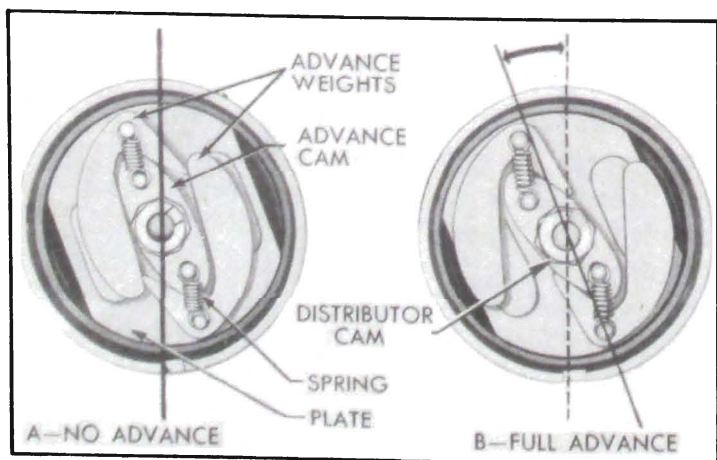

Figure 10-66—Centrifugal Advance Mechanism
2. *Centrifugal advance* which is governed by speed of engine. The centrifugal advance mechanism built into the distributor consists of an advance cam which is integral with the distributor cam, a pair of advance weights, two springs, and a weight base plate which is integral with the distributor shaft. At low speeds the springs hold the advance weights as shown in figure 10-66, view A, so that there is no additional spark advance and the spark occurs in accordance with the initial manual setting of distributor. As speed increases, centrifugal force causes the advance weights to throw outward and push the advance cam, thus rotating the distributor cam ahead of the distributor shaft. This causes the distributor cam lobes to open and close the contact points earlier in the compression stroke so that the spark is advanced. See figure 10-66, view B.